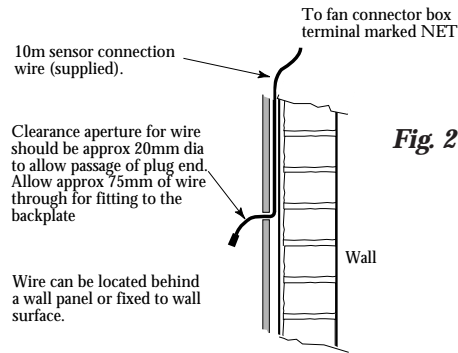

Fig 2
- Select a suitable location for the sensor and arrange the cable in position. Leave approx. 75mm of the cable free at the mounting point to ease the connection of the plug. (fig. 2).